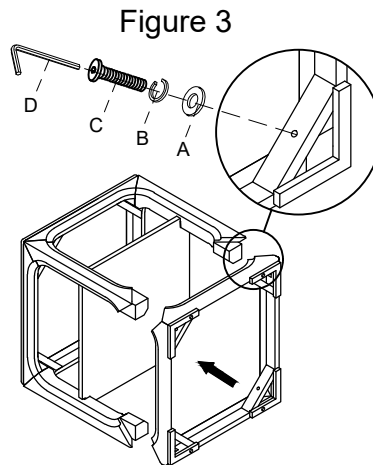

Figure 3
3. Attach bottom shelf to four legs using Bolt (C), Lock Washer (B) and Flat Washer (A) and tighten with the Allen Wrench (D). As Shown in Figure 3.